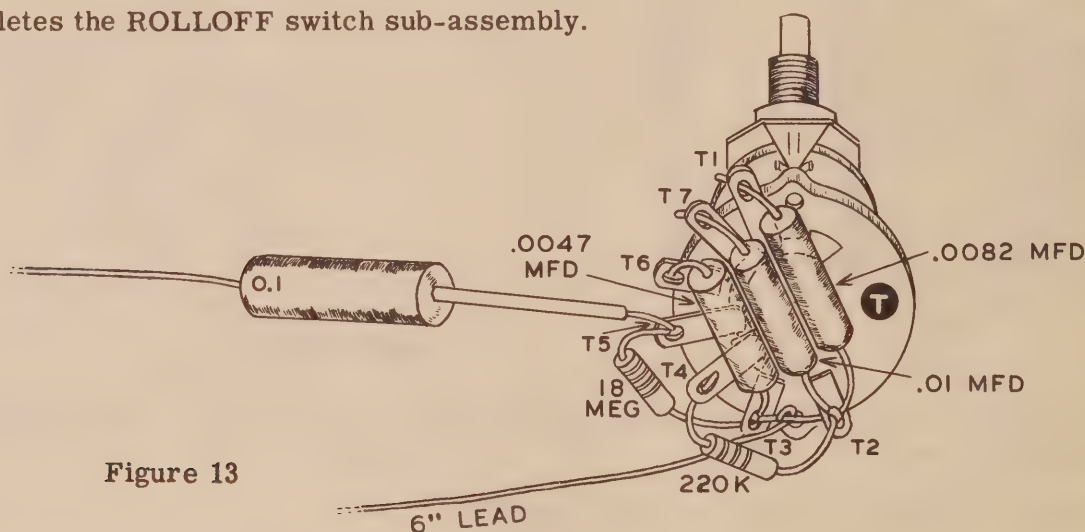

Figure 13
- (✓) 41. Prepare the TURNOVER switch assembly T. This is the remaining single-wafer switch bearing part number 63-75. Figure 13 is a detailed drawing of the switch and its wiring. Notice the location of terminal 1, which is to the left of center on this switch. Connect a .0082 μ fd molded condenser from T1 (S) to T2 (NS).
- (✓) 42. Now connect a .01 μ fd molded condenser from T7 (S) to T2 (NS).
- (✓) 43. Connect a .0047 μ fd condenser from T6 (S) to T3 (NS).
- (✓) 44. Connect an 18 megohm resistor from T5 (NS) to T3 (NS).
- (✓) 45. Connect a 220 K Ω resistor from T4 (S) through T2 (NS) and back to T3 (S). Now connect one end of a 6" length of hookup wire to the resistor lead (S) between T2 and T3. Solder T2.
- (✓) 46. Cut one lead of a 0.1 μ fd molded condenser to a length of 1 1/2" (Ins.) and connect this lead to T5 (NS). Leave the other lead of the condenser free.